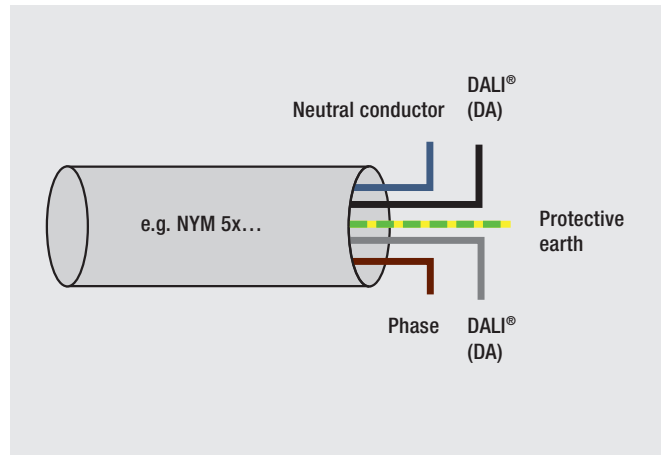

Figure 12: Individual wires of a DALI® control line.
**Note:** For reasons of clarity, it is recommended to use the black and gray wire of the cable for the DALI® connection (see figure 12).